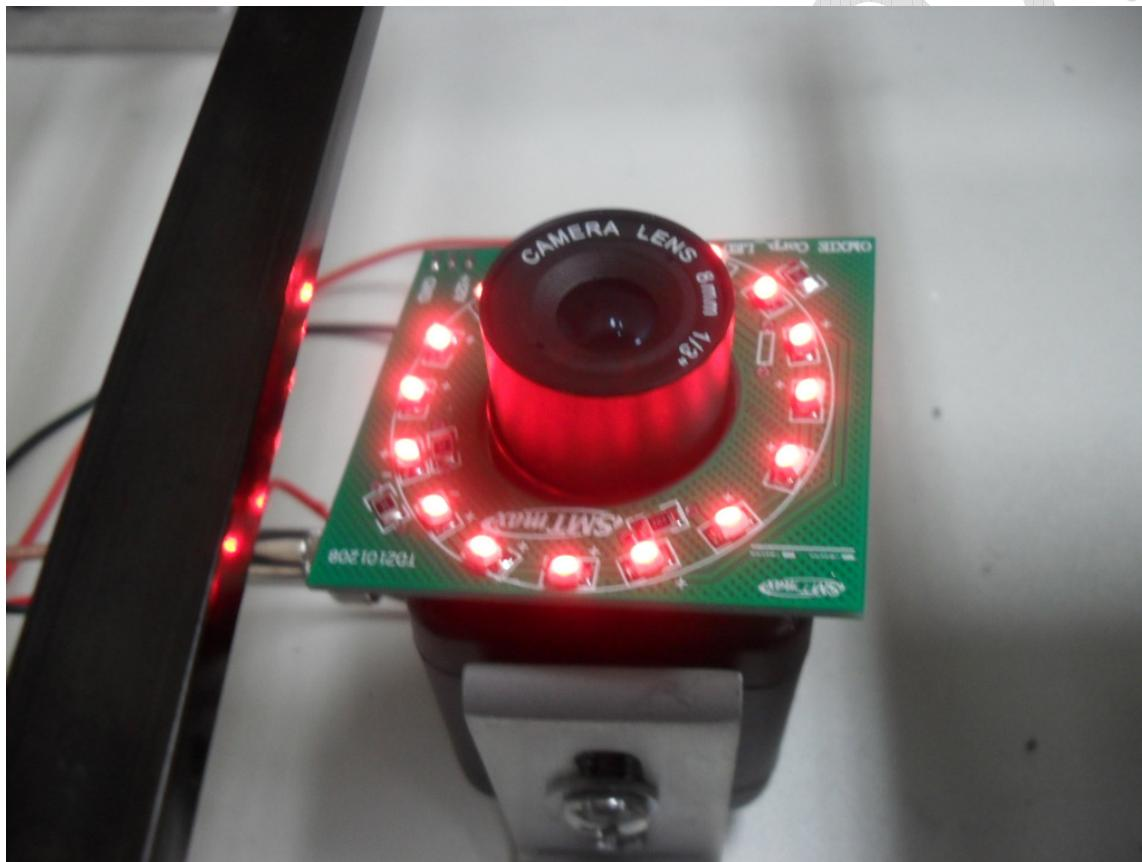

Figure 3.14: Uplooking Camera viewed from top side
5. If the ULOOKING CAMERA is NOT in this position, as it isn't in Figure 3.14, for example, then it needs to be calibrated.